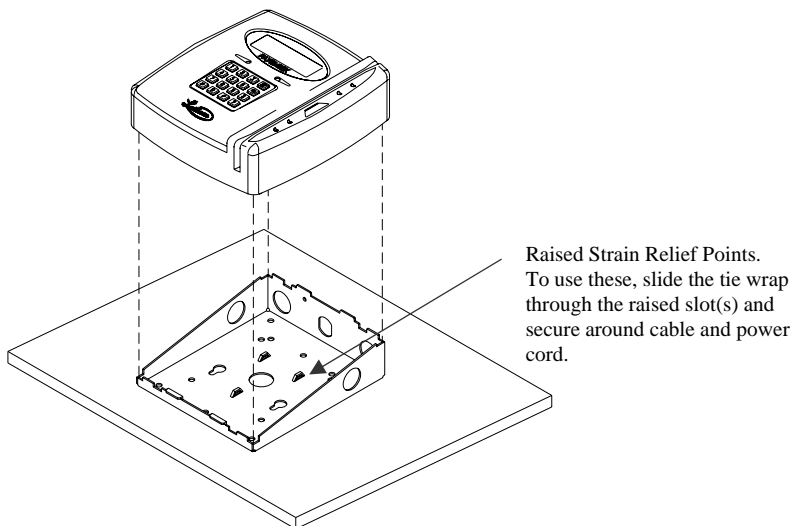

Figure 2
- ◆ Rotate the back box as illustrated below. Secure the power and communications cable to the back box by inserting supplied Tie Wrap(s) through the raised strain relief points; see Figure 2.